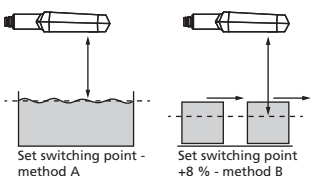

Fig. 3: Setting the switching point for different directions of movement of the object
- In the »Set switching point – method A« Teach-in procedure the actual distance to the object is taught to the sensor as the switching point. If the object moves towards the sensor (e.g. with level control) then the taught distance is the level at which the sensor has to switch the output (see Fig. 3).
- If the object to be scanned moves into the detection area from the side, the »Set switching point +8 % – method B« Teach-in procedure should be used. In this way the switching distance is set 8 % further than the actual measured distance to the object. This ensures a reliable switching behavior even if the height of the objects varies slightly (see Fig. 3).